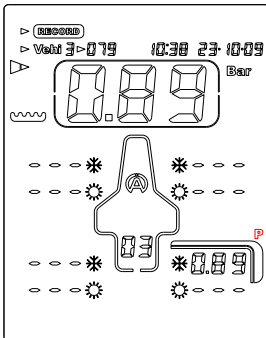

Figure 4
5) Apply the mouthpiece of the Tyrecontrol on the valve of the tyre (figure 4)